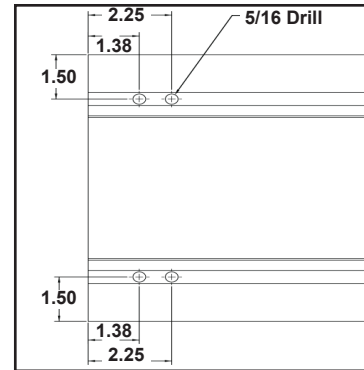

Figure 6
- Step 3. Align bolts on end cap mounting plates with pre-drilled holes on end of rail. If holes are not pre-drilled, drill (8) holes into mounting channel using a 5/16 drill bit (Do not cross drill). See Figure 6.